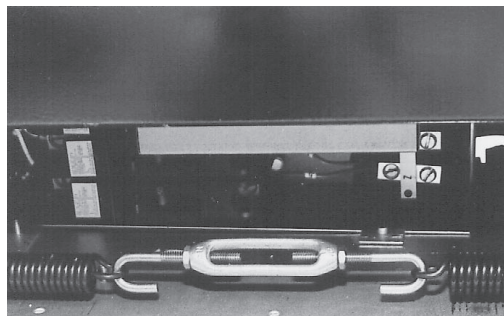

Fig. 2
3. Using a $\frac{5}{16}$ " socket loosen (2) hex nuts holding the turn buckle in place. Turn the buckle "J" bolts (left and right side) slightly retighten the nuts and test door for proper closure. Generally the door is properly adjusted when it closes on its own as you rise it to the half closed position. (Fig. 2)